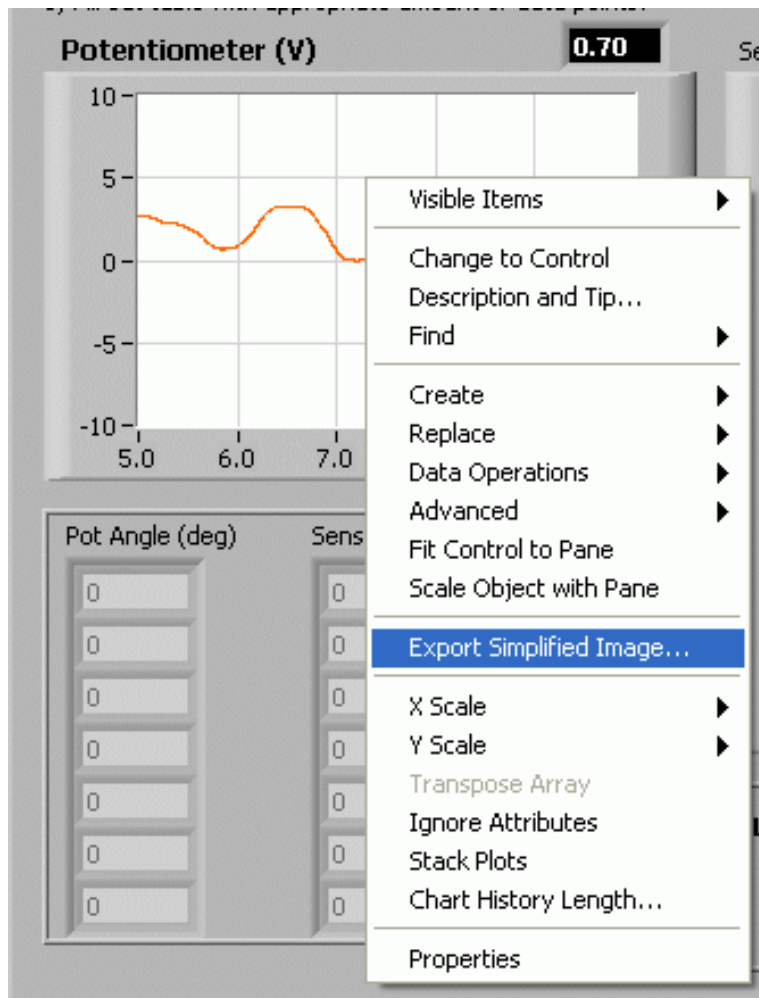

Figure 7.13: Right-click on scope and select Export Simplified Image
1. Right-click on the scope and select Export Simplified Image, as shown in Figure 7.13